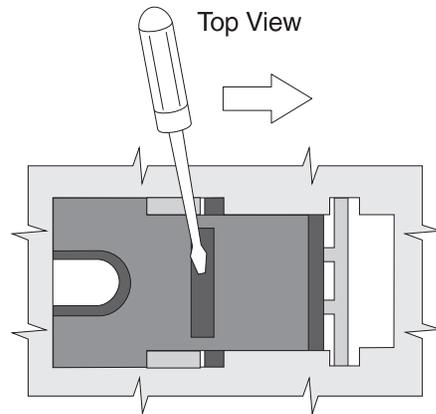
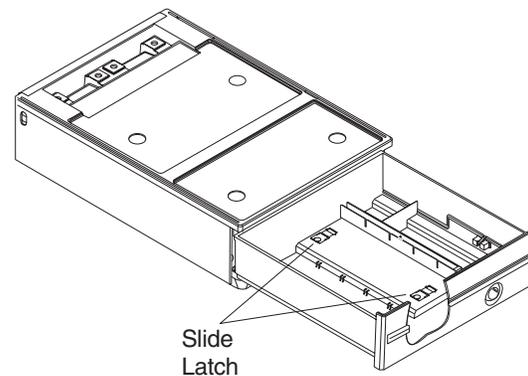

Figure 10. Releasing the drawer from the slide assembly
Figure 11. Removing and replacing the compact cash drawer
4. Using a coin or large screwdriver, move the drawer slide latches to the right (facing the front of the drawer; see Figure 10 on page 13 and Figure 11 on page 13) until the drawer is released from the slide assembly. Lift the drawer out.